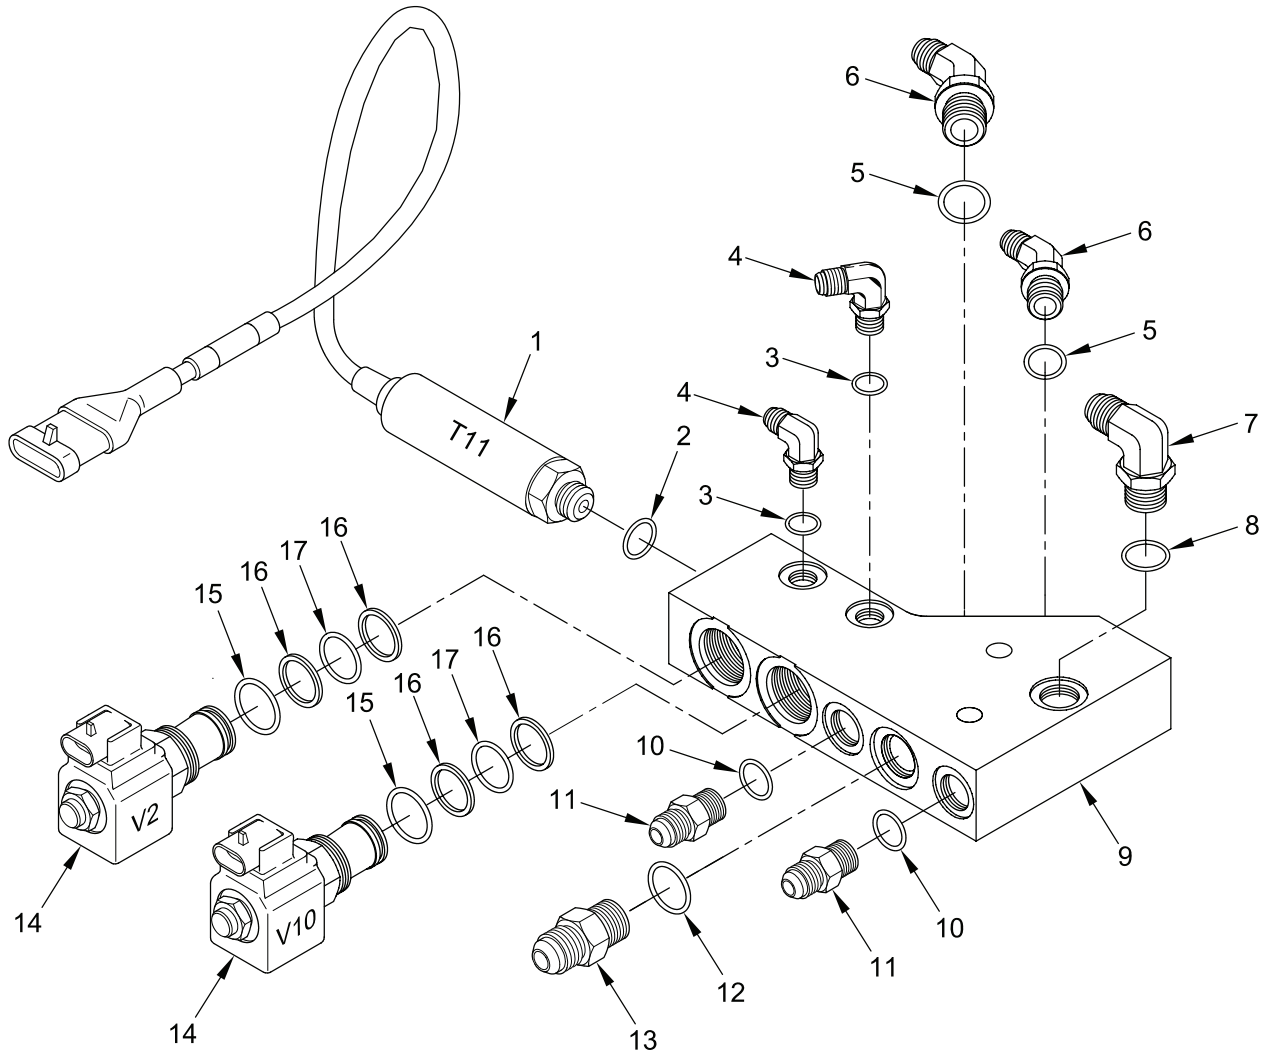

Figure 2. Disassembly of HDC Forward Right Manifold
1. Remove two adapters (Figure 2, item 4), two o-rings (Figure 2, item 3), two adapters (Figure 2, item 11), two o-rings (Figure 2, item 10), adapter (Figure 2, item 13), o-ring (Figure 2, item 12), adapter (Figure 2, item 7), o-ring (Figure 2, item 8), two adapters (Figure 2, item 6), and two o-rings (Figure 2, item 5), from right manifold (Figure 2, item 9). Discard o-rings.
2. Remove two two-way (NO) valves V2 and V10 (Figure 2, item 14), two teflon backups (Figure 2, item 16), two o-rings (Figure 2, item 17), two teflon backups (Figure 2, item 16), two o-rings (Figure 2, item 15), transducer T11 (Figure 2, item 1), and o-ring (Figure 2, item 2) from right manifold (Figure 2, item 9). Discard o-rings and teflon backups.